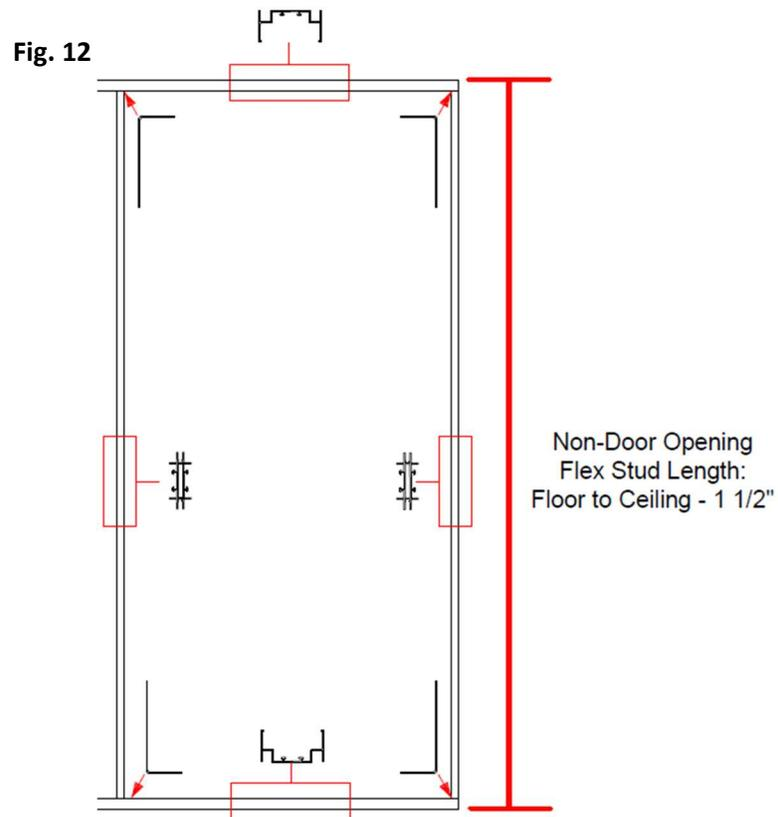

Fig. 13
- a. Allow air gap between the Flex Stud and Flex Track. This will give the ability to move the Flex Stud when setting the spacing between studs. Fig. 13.